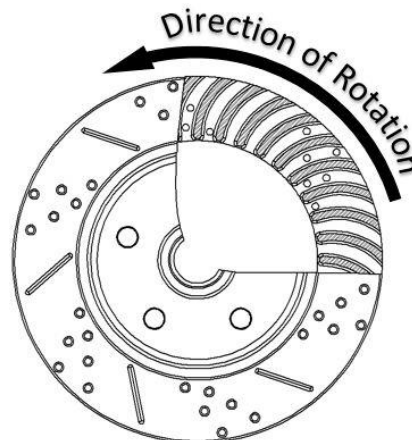

Figure 5 – Rotor Orientation
8. Install the rotor onto the axle flange. Verify that the rotor goes all the way against the axle flange. **TIP:** To make caliper installation easier, thread a couple of flat washers and nuts against the rotor to act as a lug nut and hold everything in place. **IMPORTANT:** If using slotted and drilled rotors, pay close attention to Figure 5 below for proper rotor placement on the driver and passenger side.